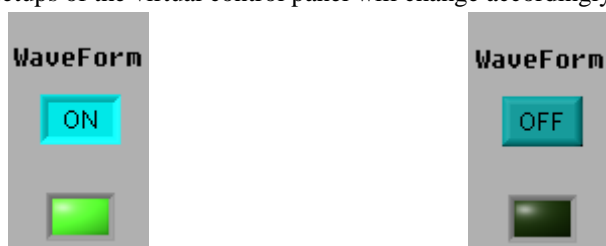

Fig 3-3 ON/OFF status display of the data transmission button
3. Click the [Data Transmission] button to turn it on. When the indicator light comes on the function is ON. When the indicator light goes off the function is OFF, as shown in Fig 3-3. When data transmission is on, you can operate the digital storage oscilloscope with the buttons and knobs on the control panel. The parameters and setups of the virtual control panel will change accordingly.